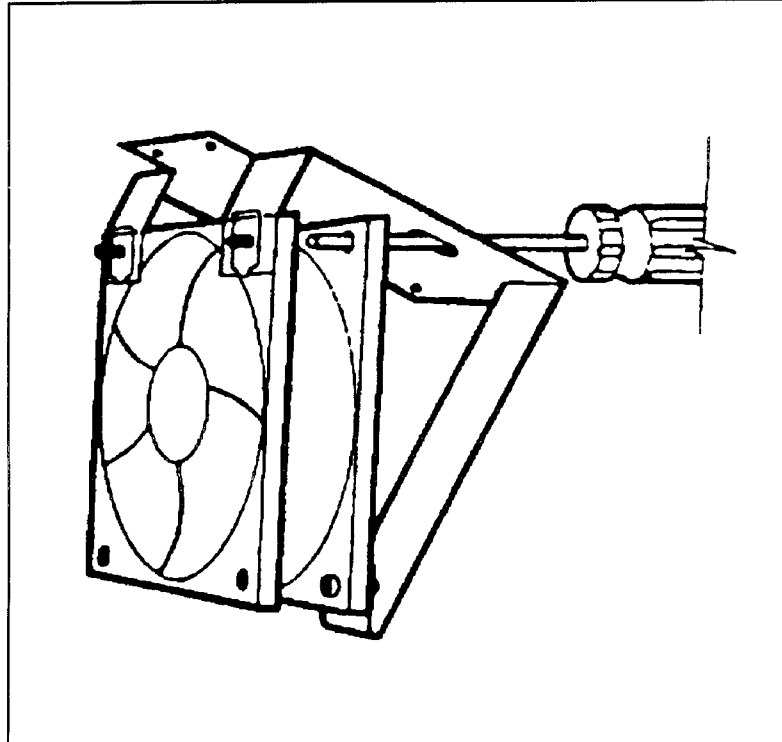

Figure 6-27. Lower Fan Bracket
- e. Remove the fan from the bracket by removing four screws (see Figure 6-27).